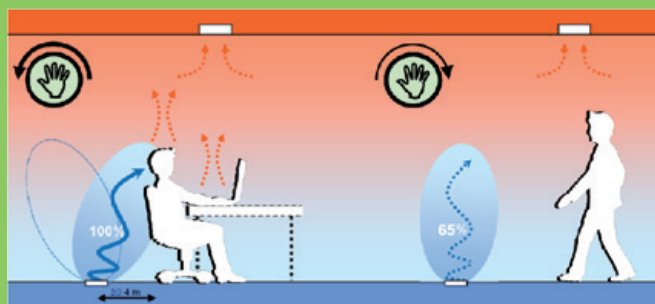

Figure 6
- **Option “IV = Inclined-Vertical”** (figure 6)
- Includes items 4 to 10 above.
- Optional Configuration “IV” (figures 6): User adjustable discharge direction. Combined user-adjustable air pattern and airflow rate.
- Includes items 4 to 11 above.